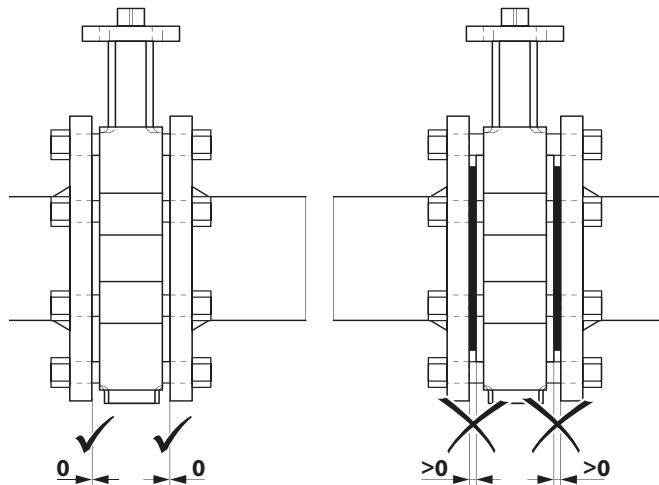
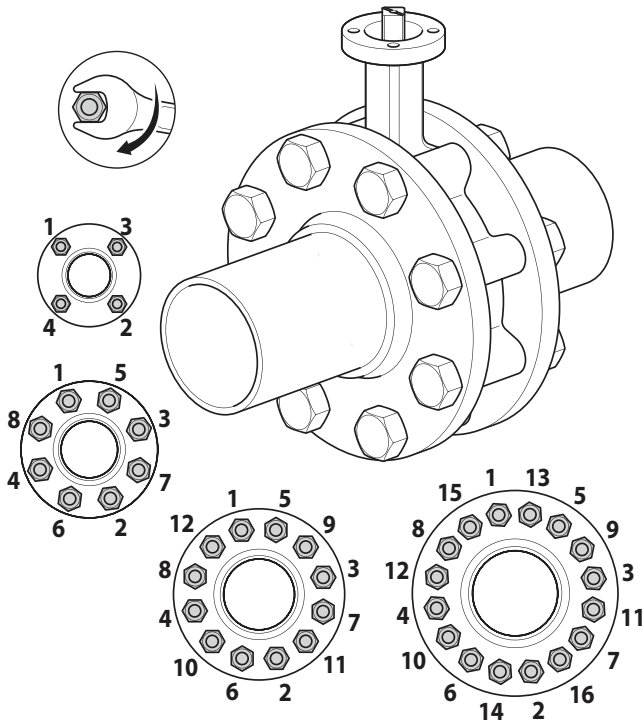

Fig. 29.
Fig. 32.
- Follow the recommended flange bolting sequence. (Fig. 32)
5. Using the sequence (Fig. 32), tighten the flange bolts evenly to assure uniform compression. In assembling flange joints, the resilient seating surface shall be uniformly compressed (Fig. 29).